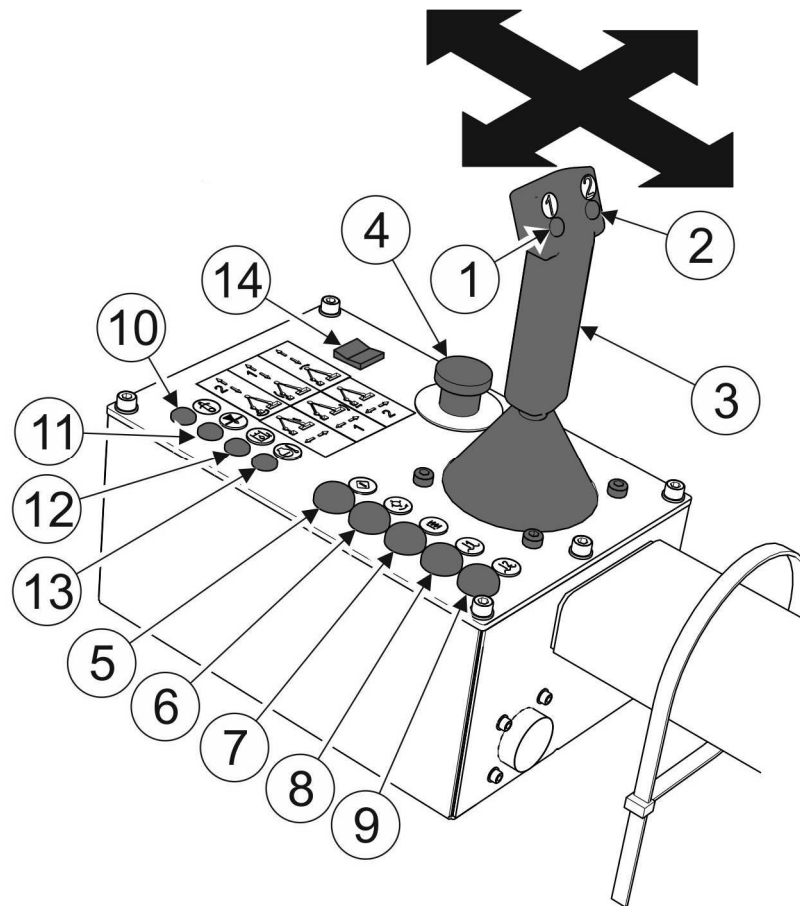

FIG. 4.5 Control panel of multifunction arm.
The arms and working head are controlled by means of control panel installed in the cab of the tractor (FIGURE. 4.5).
Individual functions of control lever (FIGURE 4.5 / 4.6):
After setting the working head in working position, engage working head drive by pressing push-button (9) on the control panel (FIGURE 4.5). Ramp time for activation of working head drive is about 2 seconds. When ground surface tracking is required for the working head, engage floating position of the multifunction arm and working head by pressing push-buttons (7) and (8) and shock absorber function using the (6) button.
indicator trigger a minimum oil level sensor. If the light (11) (Figure 4.5) comes on the multifunction arm control panel add the oil in the tank to the required level.
Suction filter is located between the tank and the oil pump. Filter clogging sensor fitted in the filter housing triggers a light indicator the multifunction arm control panel in the tractor (13) (FIGURE 4.5). Replace suction filter each the filter clogging indicator comes on. Replace the filter for the first time filter change should occur after 100 hours of multifunction arm operation regardless of whether the sensor indicates a clogged filter. In order to change filter: